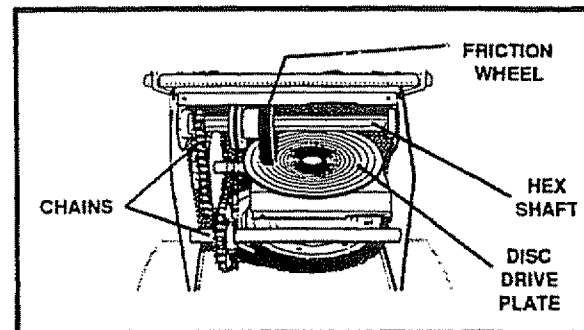

FIG. 17
- Hex Shaft and Gears - Hex shaft and gears require no lubrication. All bearings and bushings are lifetime lubricated and require no maintenance (See Fig 17).
NOTE: For storage, the hex shaft and gears should be wiped with 10W-30 motor oil to prevent rusting (See Fig. 17).